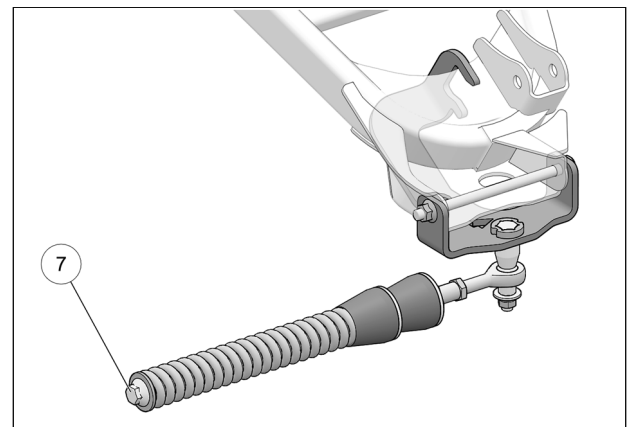

Fig. 12
11. Verify that spring assembly bolt (7) is tightened to the recommended torque specification: 75 N•m [55 lb•ft]. Refer to Fig. 12